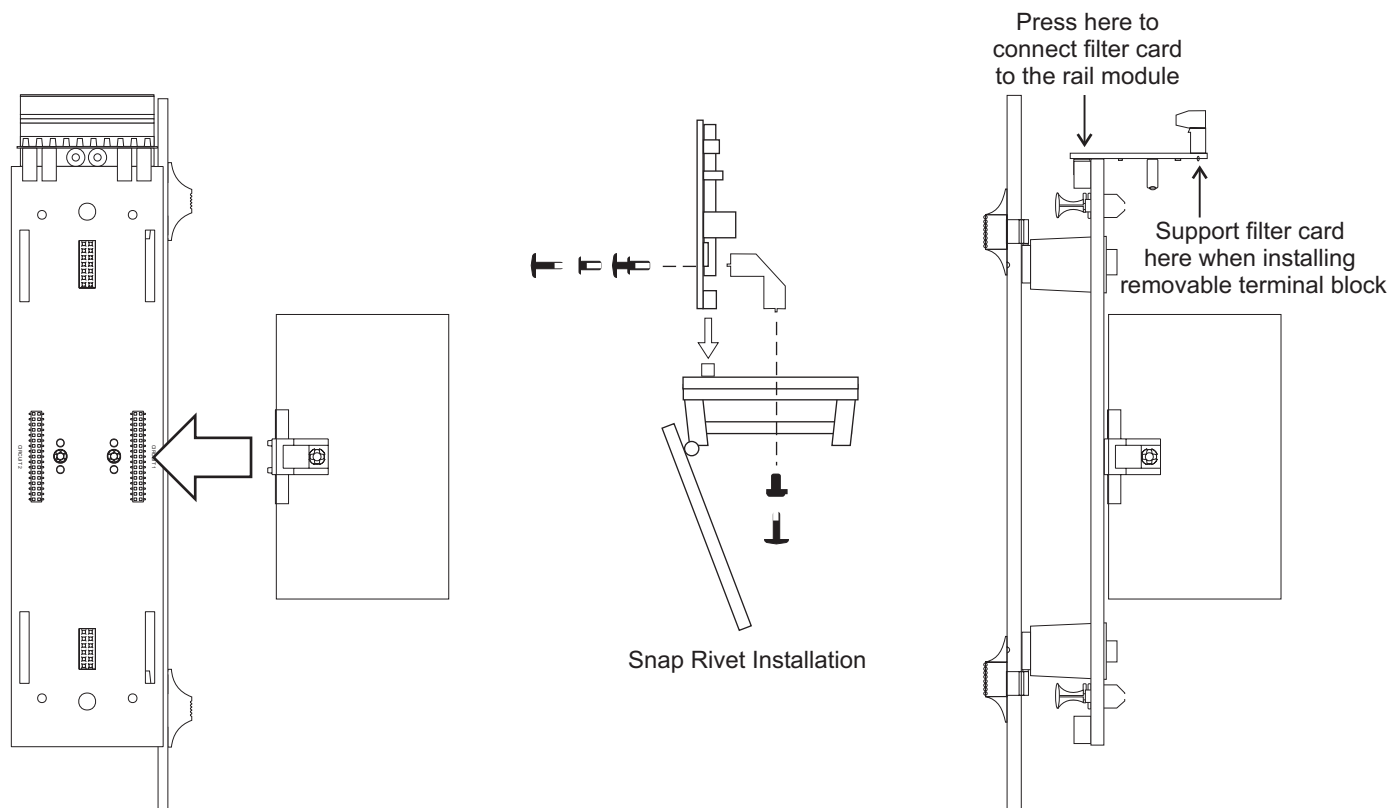

Figure-1: Filter card and LIM card installation
1. Connect the LIM card to CIRCUIT 1 on the back side of the rail module assembly. See Figure-1 on reverse side.